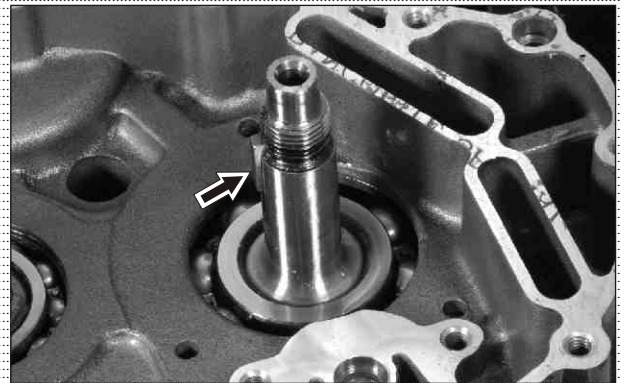

Fig. 3.67
- Take out key (4x4x15) from the crankshaft assembly. (Fig. 3.67)